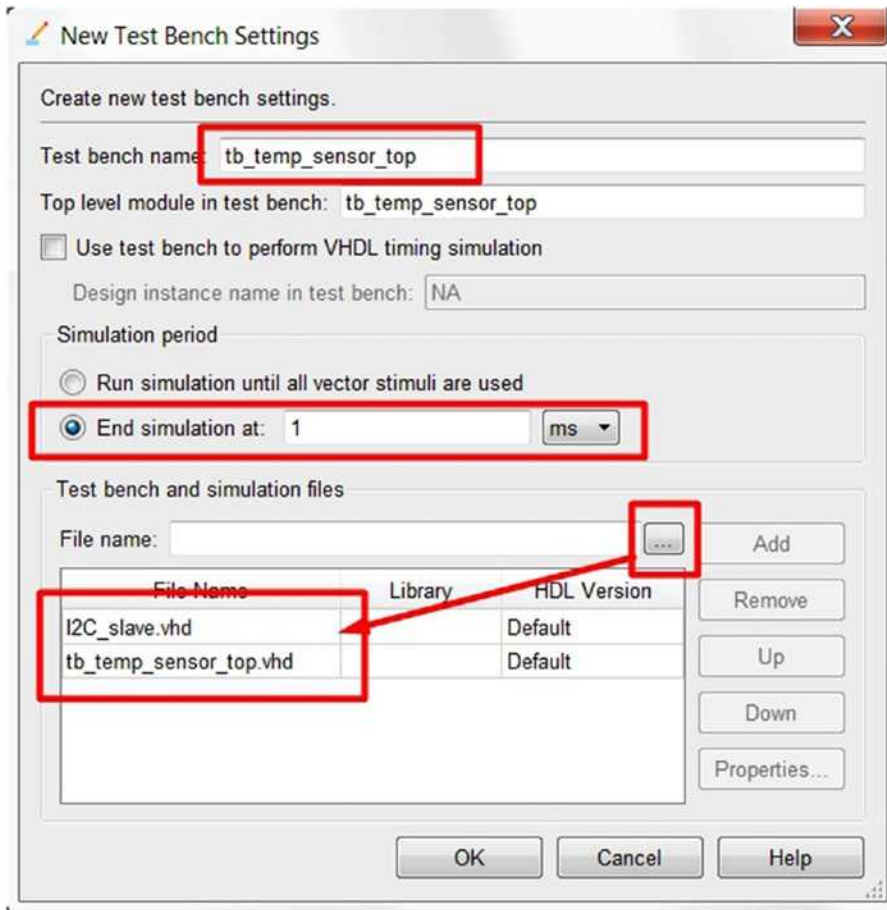

Figure 13-28. New Test Bench Settings
6. In the New Test Bench Settings window, please follow Figure 13-28 and click OK and OK again. You will add two .vhd files under Create new test bench settings: I2C_slave.vhd and tb_temp_sensor_top.vhd.